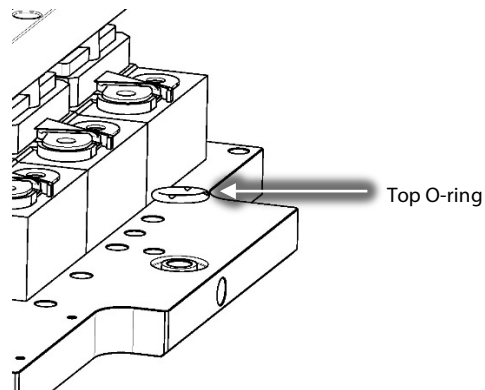

Figure 19 – Inverter Plate Top O-ring Removal
28. Carefully remove the small O-ring located on top of the Inverter Plate. Refer to Figure 19 (Inverter Plate Top O-ring Removal).